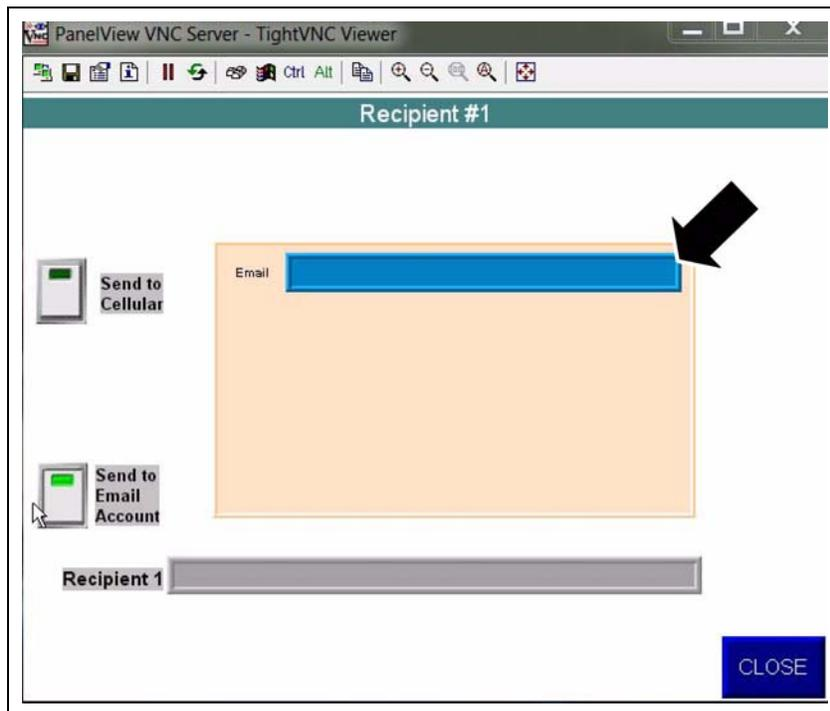

Figure 6G
- Click on the blue Email entry box. A keypad will pop up so you can enter the address. When finished, press the return key to close the keypad. The email address should show up in the grey box for Recipient 1. Press the Close button when complete. (See Figure 6G.)